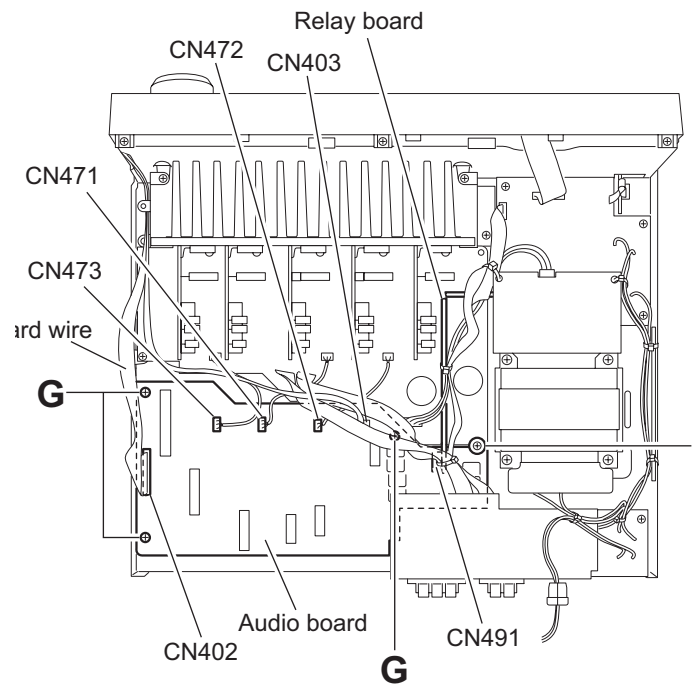

Fig.7
2.6 Removing the audio board (See Fig.7)